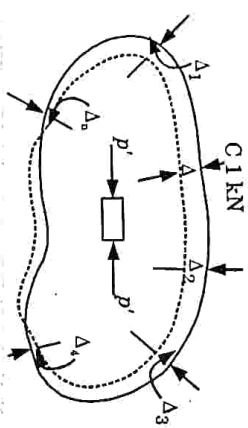

Fig. 3.9.2. System of forces applied to a body.
6. Now, if  $P$  system of forces is applied to the body shown in Fig. 3.9.2(b).